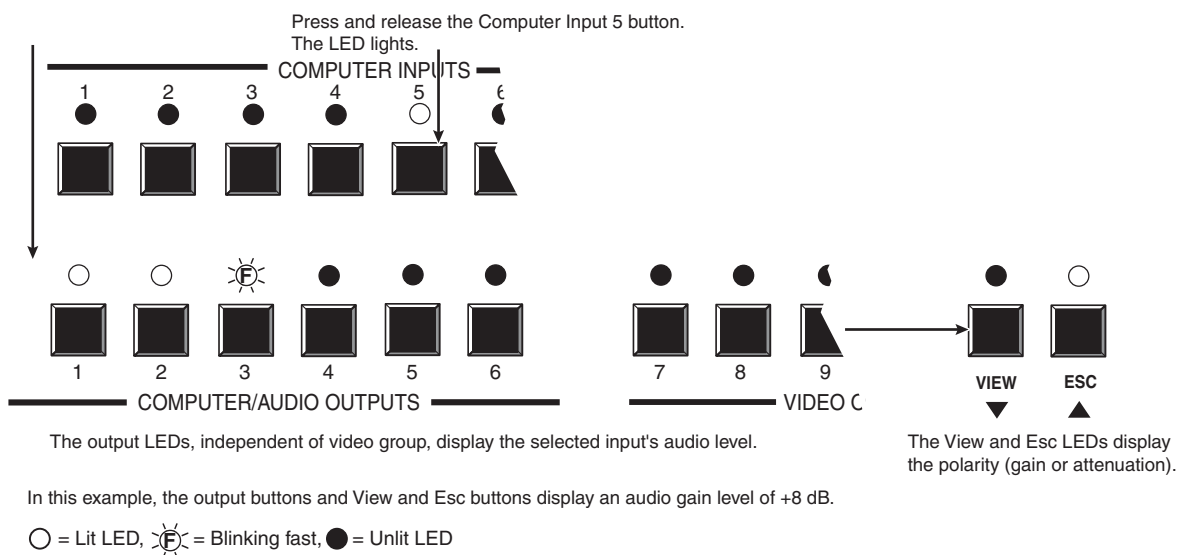

Figure 3-54 — Select an input
3. Press and release the input 5 button (figure 3-54).